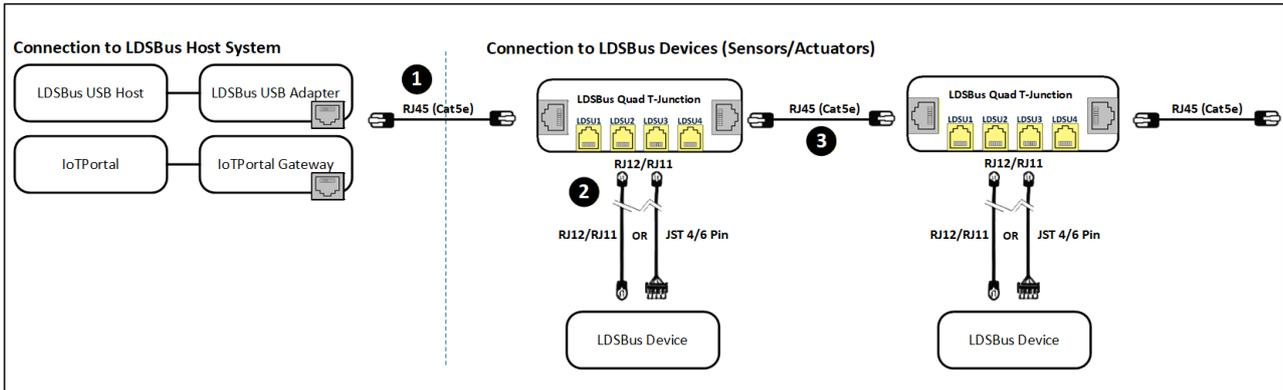

Figure 2 - Connection Diagram
Figure 2 illustrates the connection of the LDSBus EC Sensor Adapter (LDSBus Device) to the LDSBus. Please visit <https://brtsys.com/resources> to view the full device application, setup, and installation guides.
1. Connect the first LDSBus Quad T-Junction to any of the LDSBus Host Systems using the RJ45 (CAT5e) cable as shown in Figure 2.
2. Connect the configured LDSBus EC Sensor Adapter to the LDSBus Quad T-Junction as shown in Figure 2.
3. If there is more than one LDSBus Quad T-Junction, chain them together as shown in Figure 2.